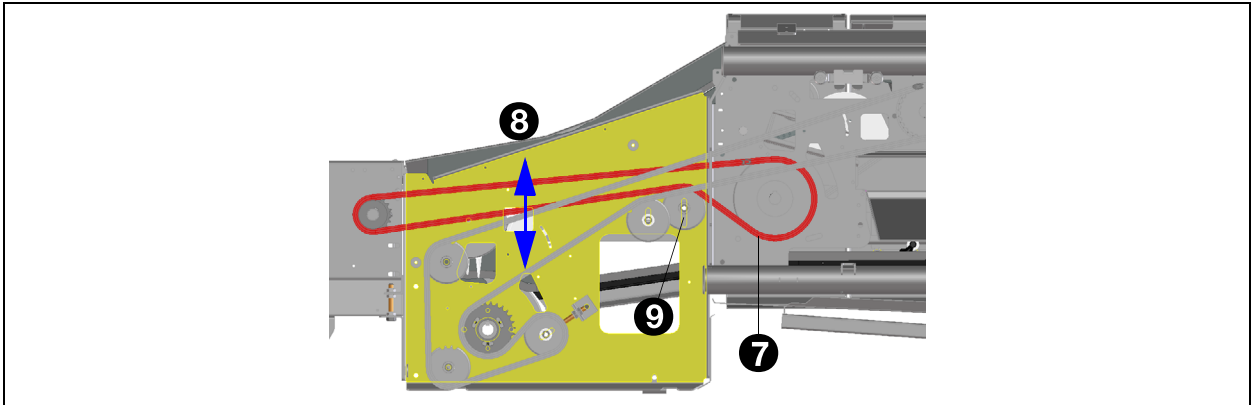

Fig. 38 - Drive chain OMNIA 170
There is one chain in the placement unit of the Combi infeed unit, see, fig. 38:
1. The play (8) in the drive-chain (7) can amount to a maximum of 10 mm. See fig. 38.
2. Adjust the play with the chain-tensioner (9).